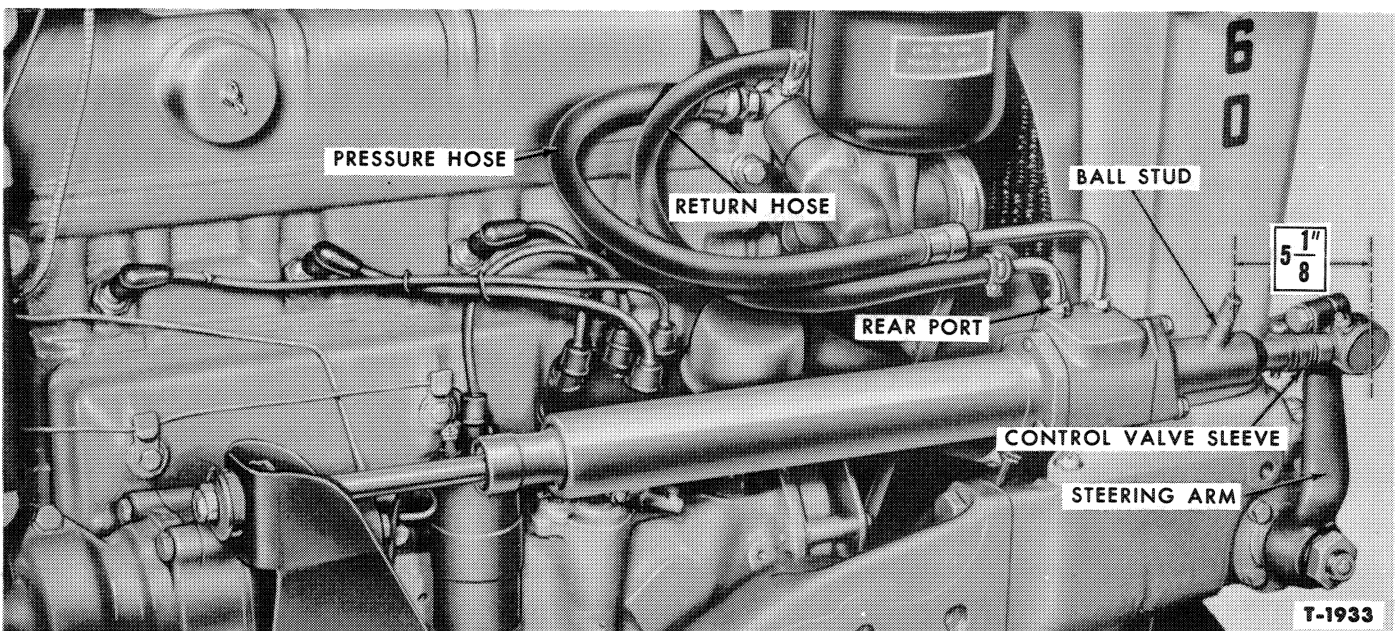

Figure 28—Adjustment of Power Cylinder and Control Valve to Steering Arm
- a. Raise the tractor front end to free the wheels, then align the front steering arm vertically as shown in Figure 28.
5. Adjust the distance from the center of the ball stud in the sleeve and flange assembly, to the center of the ball stud in the steering arm by rotating the cylinder and control valve assembly. The distance between these centers should be $5\frac{1}{8}$ " as shown in Figure 28.